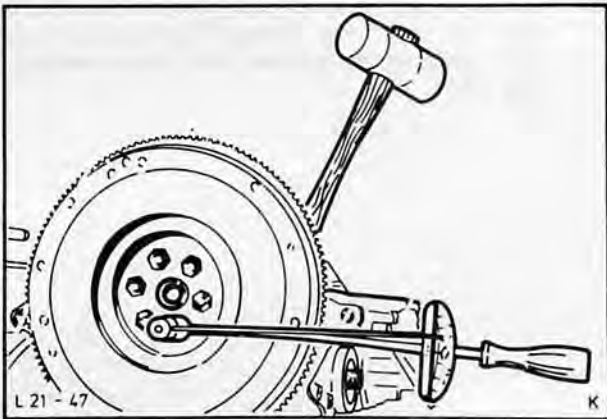

Fig. 104. Fit flywheel
39. Fit flywheel, Fig. 104, and torque as specified in Technical Data.